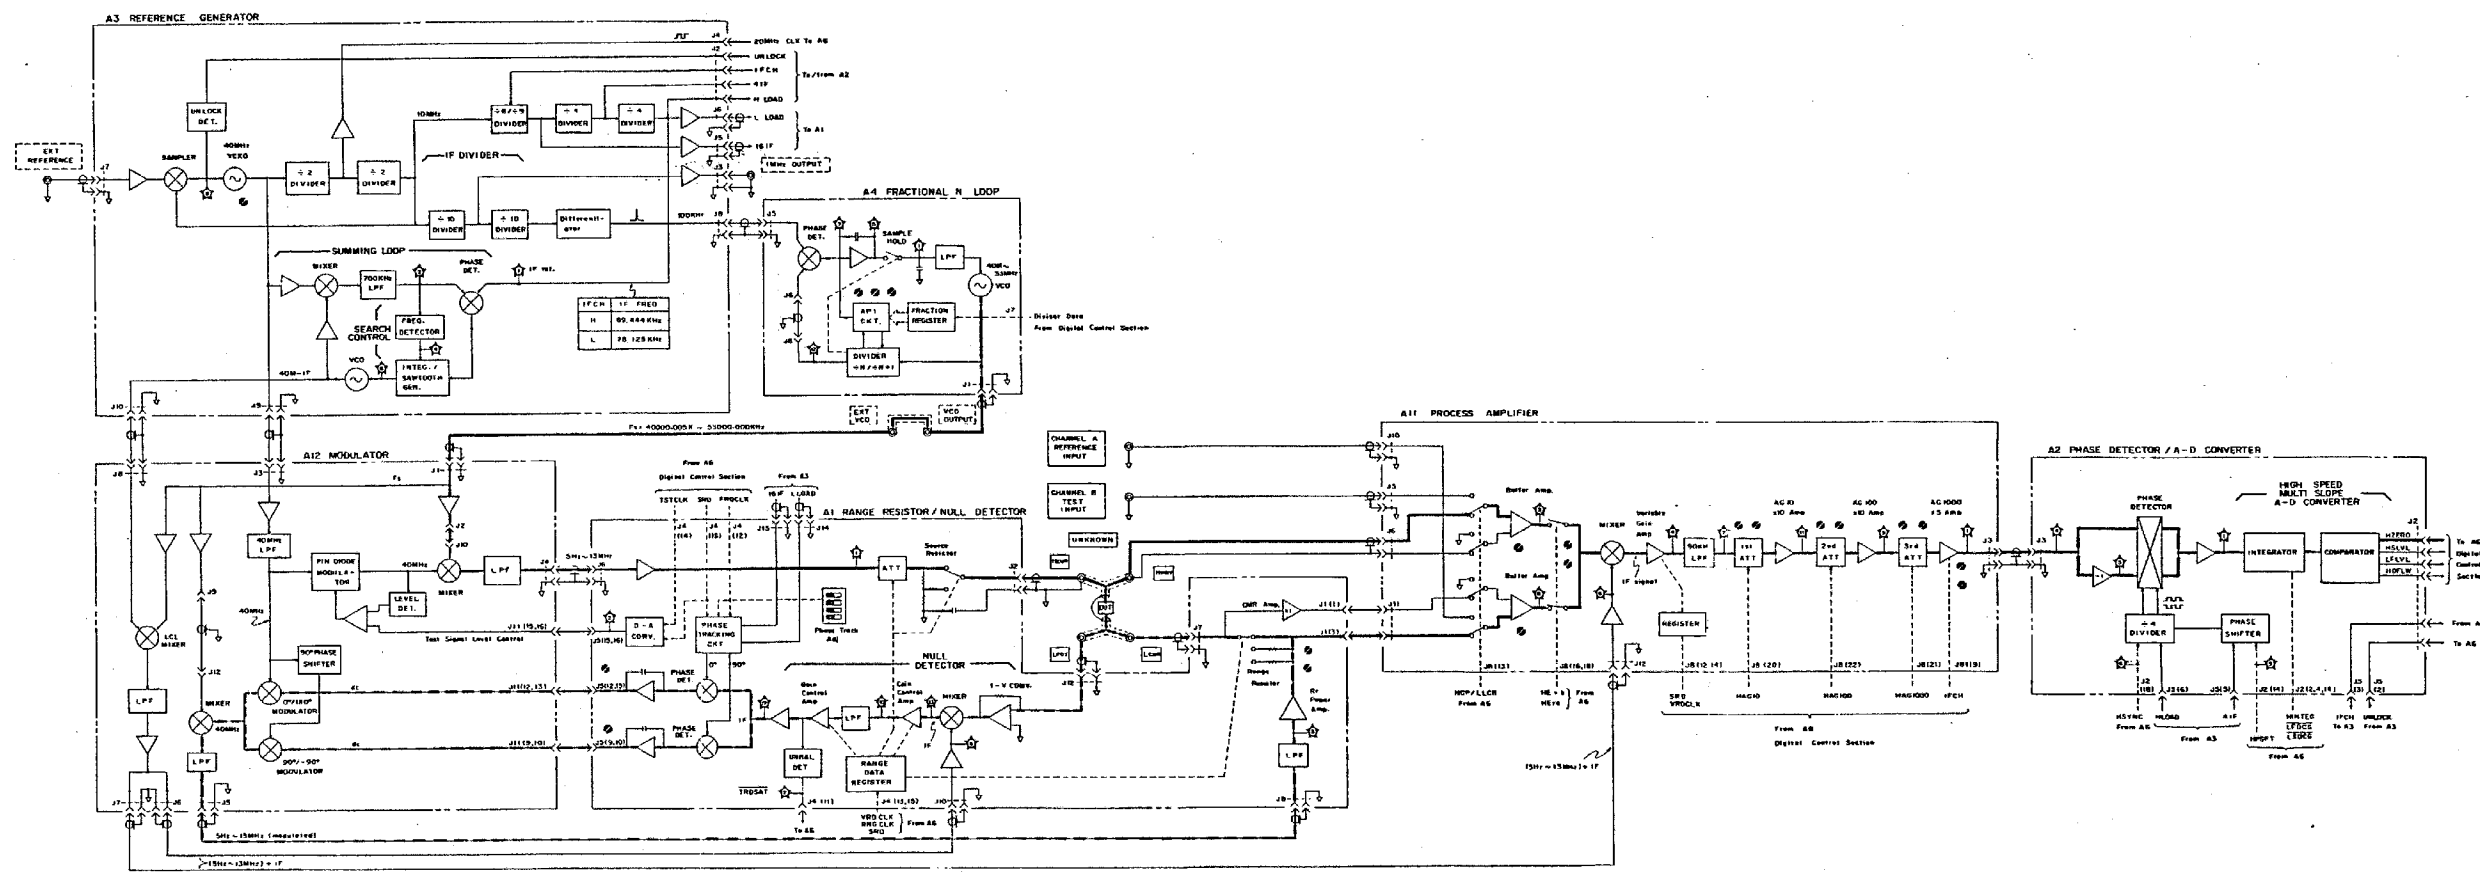

Figure 8-22. Analog Measurement Section Block Diagram.
8-36. The measurement circuit of the 4192A is conceptually divided into three subsections: (1) the signal source, composed of the A3 Reference Frequency Generator and the A4 Fractional N Loop; (2) the auto-balance bridge, composed of the A1 Range Resistor/Null Detector and the A12 Modulator; and (3) the vector ratio detector (VRD), composed of the A2 Phase Detector/A-D Converter and All Process Amplifier. The block diagram of the 4192A measurement circuit is shown in Figure 8-22. For simplicity, the block diagram is drawn for function and signal flow and does not, therefore, show complete details. The bold lines in the block diagram show the main test signal flow and the dashed lines show the balance control loop of the bridge circuit.
8-53. The switch circuit at the input stage of the process amplifier changes the measurement circuit for either impedance parameter measurements or amplitude-phase measurements. When making an amplitude-phase measurement, all of these switches are set to opposite positions from those shown in the block diagram (Figure 8-22). Then, the process amplifier accepts the inputs for CHANNEL A and CHANNEL B to be measured in place of the signals obtained from the bridge circuit. In B-A